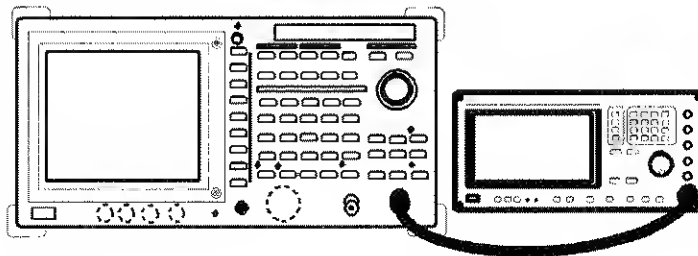

Figure 2-53 Measuring Burst Signal in Separate Screen Mode
1. Connect the unit under test as shown in Figure 2-53.